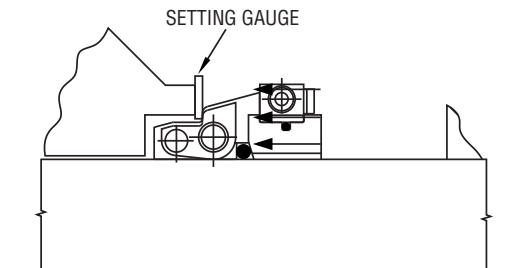

FIGURE 8
- The mating ring adapter assembly should be loose enough to slide along the shaft. Next, affix the setting gauge to the mating ring adapter and slide the assembly back against the seal chamber face (as shown in Figure 8). Evenly tighten the mating ring adapter screws. Refer to top assembly drawing for specified torque value.